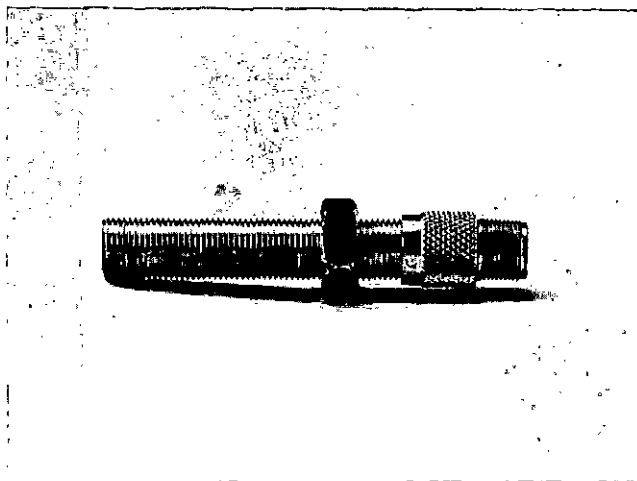

Fig. 3, Magnetic Pickup.
1. The magnetic pickup is an electromagnetic device that is mounted in the flywheel housing, Fig. 3. When the flywheel gear teeth pass the pickup, an alternating current (A.C.) voltage is induced, one cycle for each gear tooth.